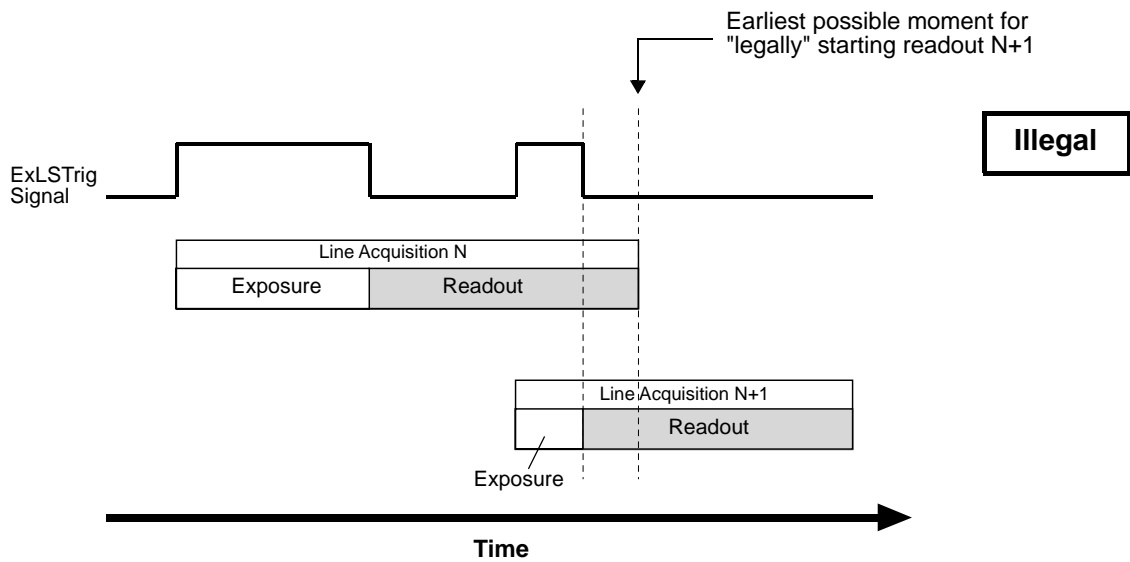
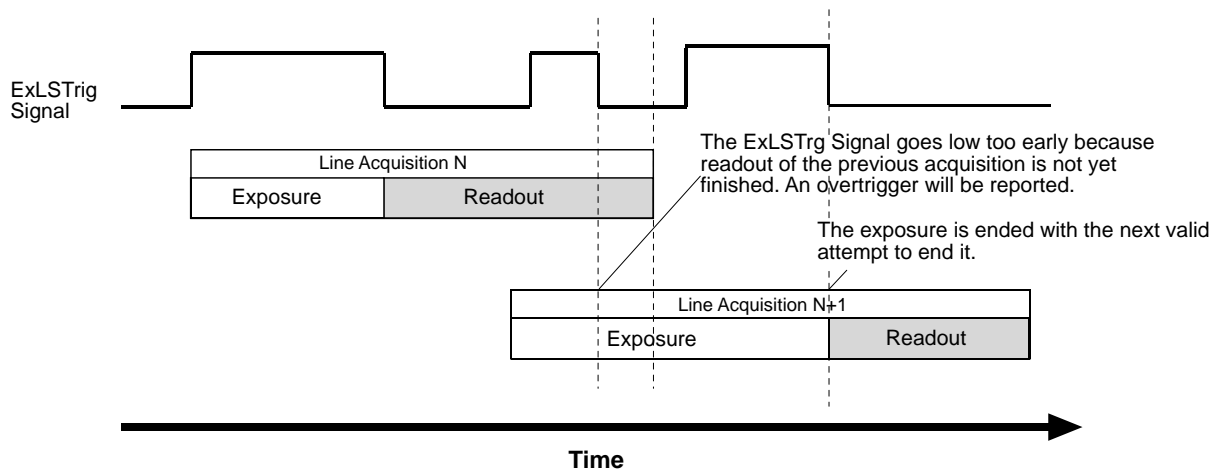

Fig. 24: Exposure N+1 Illegally Ends Before Readout of the Preceding Line Acquisition N Has Ended; Applies to Trigger Width Exposure Mode Only
Fig. 25: Extension of Exposure N+1 After the Illegal Attempt of Ending It Too Early; Applies to Trigger Width Exposure Mode Only
Certain attempts of triggering overlapped line acquisition are illegal and do not result in line acquisitions: When a line start trigger signal attempts an illegal line acquisition the trigger signal will be ignored and, accordingly, no line acquisition will be performed. In addition, the trigger signal will be reported as an overtrigger (see also Section 8.10.2 on page 133). Illegal triggering and impossible overlaps are shown in Fig. 23 on page 75 and Fig. 24 on page 75.
The exposure overhead (see Fig. 23 on page 75) is part of every exposure process. For simplicity, it is omitted from the other figures illustrating exposure and readout (see, for example, Fig. 24 on page 75).
- The line start trigger goes low to end the exposure for line acquisition N+1 before readout for acquisition N has ended (premature exposure end; see Fig. 24 on page 75). This would result in the illegal overlap of two readouts (in trigger width exposure mode only).
When the line start trigger has illegally gone low to end the exposure for line acquisition N+1 before readout for acquisition N has ended (in trigger width exposure mode; see Fig. 24), the camera will behave as shown in Fig. 25: The camera will extend the exposure and end it when the next valid trigger for ending exposure occurs.